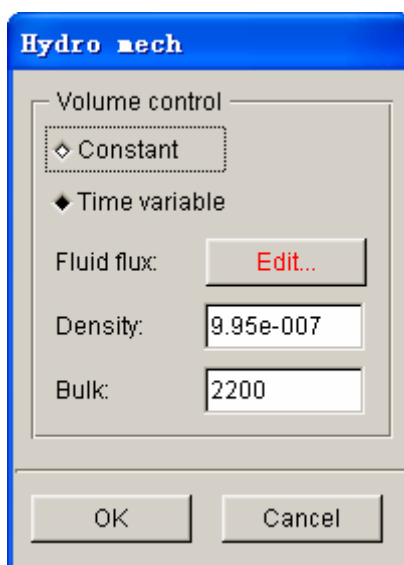

Figure 8.2.106 Fluid Flux Control dialog box
**FLUID FLUX:** Allows the user to specify fluid flux – time curve to control fluid pressure. The program displays the fluid flux setup dialog box as shown in Figure 8.2.106.